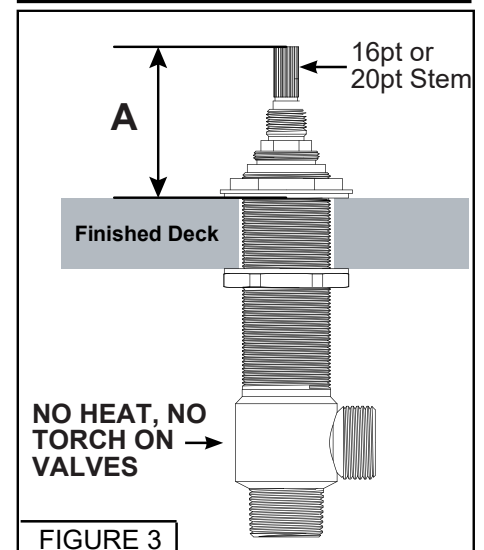

FIGURE 3
2. Provide 1-1/4" holes for hot and cold supply valves. Install hot and cold valves using mounting nuts and adjust the valve height so that Measurement A is as shown in the chart on Pg. 4 (Figure 3). Measurement A differs by handle selection. ***For 5-hole units with handshower/diverter, instructions to install the diverter and handshower are on Pg. 3